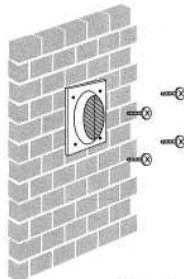

FIG. 3
6. Put the unit to cover on the holes and fix with screws tightly (see fig 3).
6. Put the outlet cover to cover inside the window hole with screws tightly - (see figure 3 & 4)